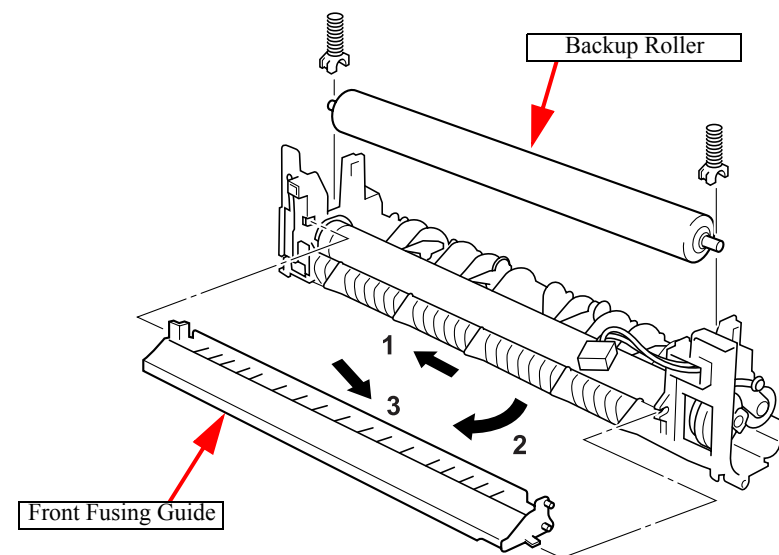

Figure 4-20. Front Fusing Guide Removal
5. Remove the Backup Roller. (See Figure 4-20)